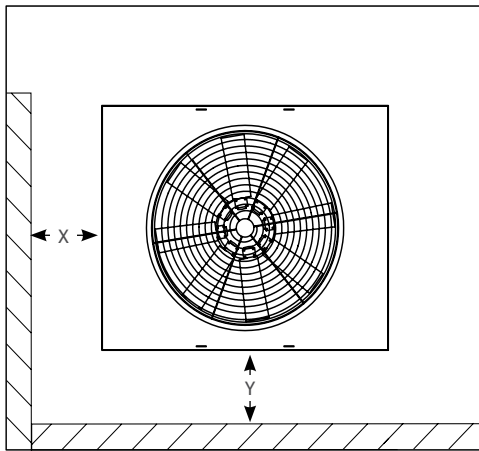
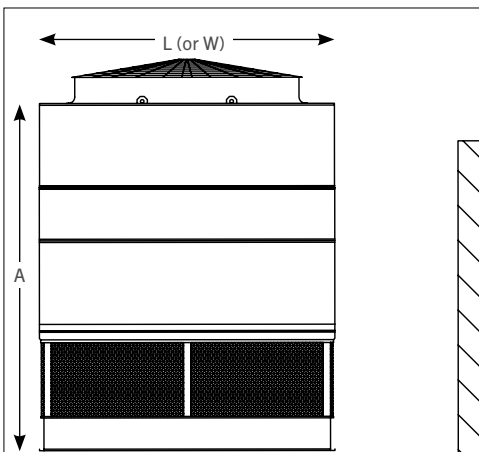

Figure 2. Plan View of PT2, PFi, or PCC Unit Adjacent to One or More Walls
Figure 3. Section View of a PT2, PFi, or PCC Unit Adjacent to Wall
Should it be necessary to install a unit adjacent to a building or wall(s), provide at least distance “X” or “Y” between the air intake and the wall, as illustrated in Figures 2 and Figure 3.
2. For a plan view of a one cell PT2 arrangement and a plan view of a PFi-0406A, PFi-0412A, PFi-0709A, PFi-1212A, and PFi-1218A refer to **Figure 2** on **page J98**. For plan views of all other configurations, see **page J99**.
2. For a plan view of a PCC-x-0406x, PCC-x-0412x, PCC-x-0709-x, PCC-x-1212x, PCC-x-1218x, and PCC-x-1220x refer to **Figure 2** on **page J98**. For plan views of all other configurations, see **page J99**.